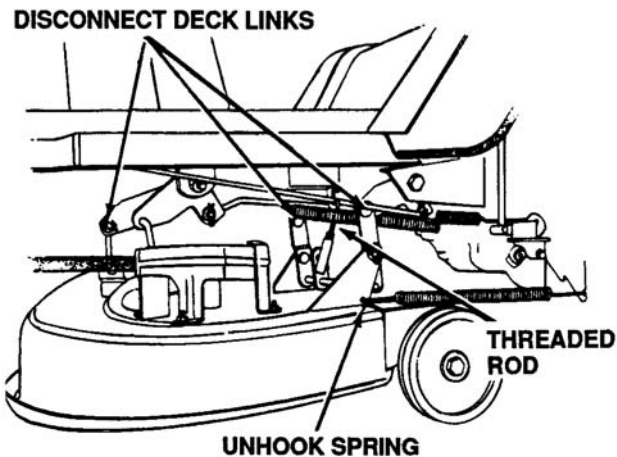

Figure 12-20. Removing Deck
5. Disconnect the spring from the left rear deck bracket. See Figure 12-20.